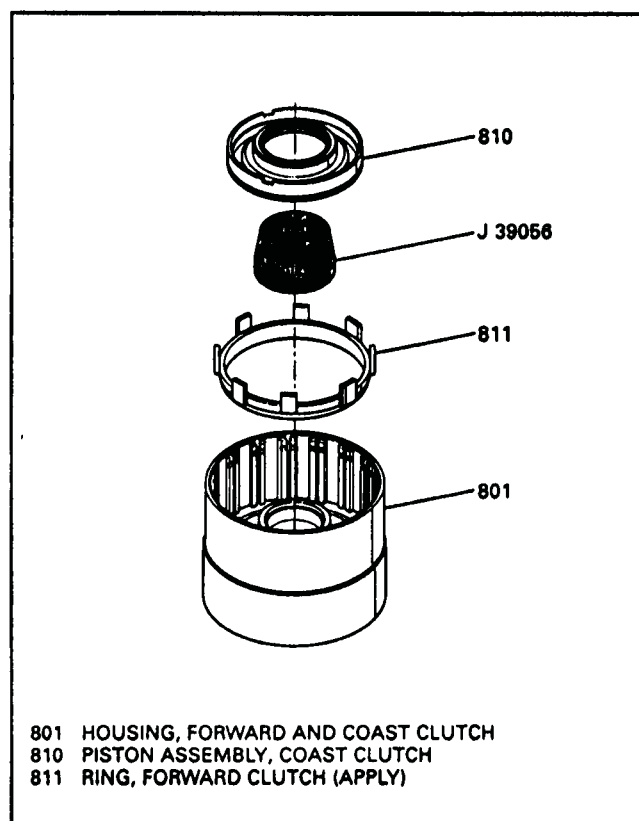

Figure 78
7. Install coast clutch piston into forward clutch piston using protector J-39056 as shown in Figure 78. Make sure outer seal does not roll backwards.